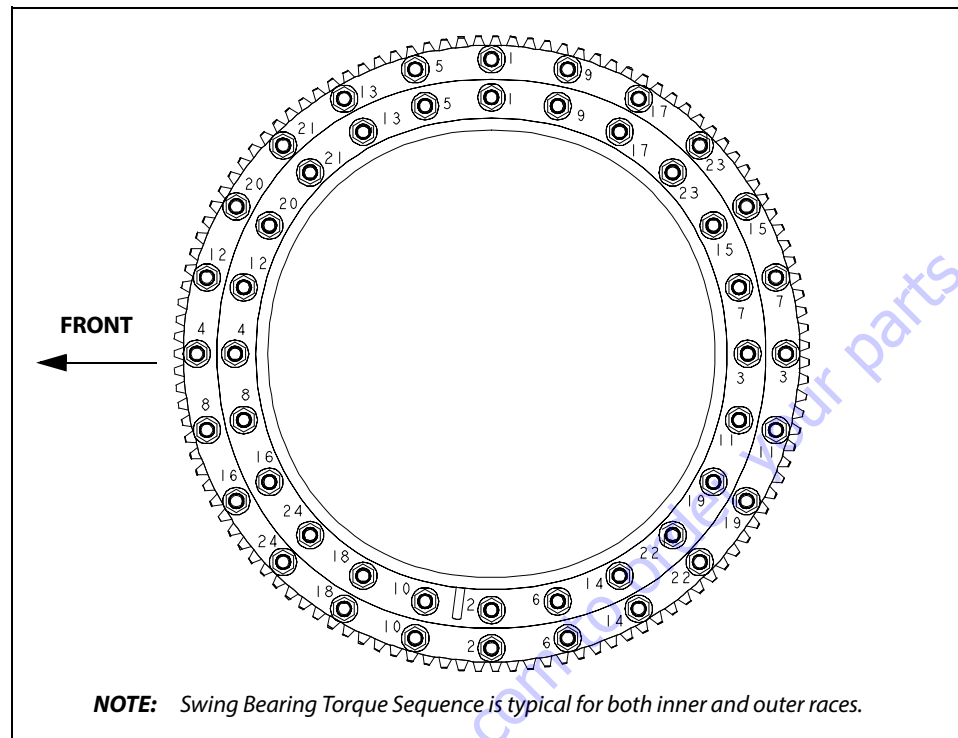

Figure 3-52. Swing Bearing Torque Sequence
3. Refer to the Torque Sequence diagram as shown in Figure 3-52., Swing Bearing Torque Sequence. Clean any residue off the new bearing bolts, then apply a light coating of High Strength Threadlocking Compound and install the bolts and washers through the frame and outer race of the bearing. Tighten the bolts to an initial torque of 190 Ft. lbs. (260 Nm) w/High Strength Threadlocking Compound.
8. Following the Torque Sequence diagram shown in Figure 3-52., Swing Bearing Torque Sequence, tighten the bolts to a torque of 190 ft. lbs. (260 Nm) w/Threadlocking Compound.